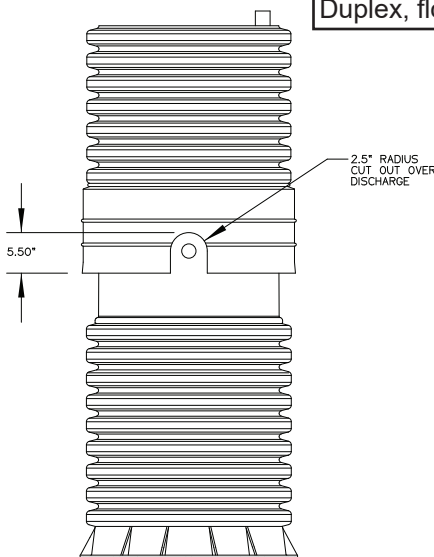

Figure 10
**NOTE: IF EXISTING ACCESSWAY HAS ONLY 2 CORRUGATIONS (Fig. 10)**